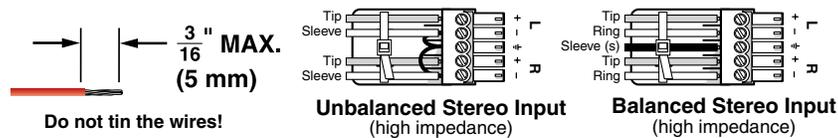
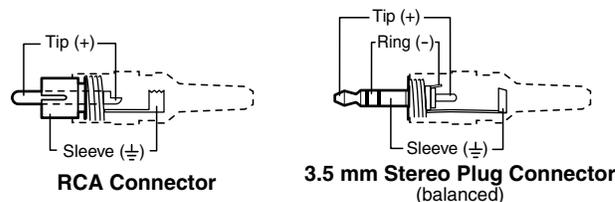
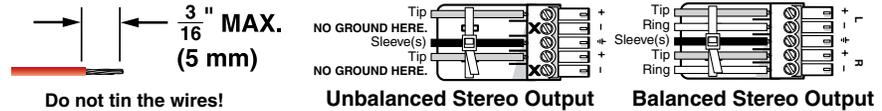

Figure 2-17 — Captive screw connector wiring for audio inputs
Figure 2-18 — Typical audio connectors
Figure 2-19 — Captive screw connector wiring for audio output
- ④ Connections for balanced and unbalanced audio inputs — Each input has a 3.5 mm, 5-pole captive screw connector for balanced or unbalanced stereo audio input. Connectors are included with each switcher, but you must supply the audio cable. See figure 2-17 to wire a connector for the appropriate input type. Use the supplied tie-wrap to strap the audio cable to the extended tail of the connector. High impedance is generally over 800 ohms.
NOTE See figure 2-18 to identify the tip, ring, and sleeve when you are making connections for the switcher from existing audio cables. A mono audio connector consists of the tip and sleeve. A stereo audio connector consists of the tip, ring and sleeve. The ring, tip, and sleeve wires are also shown on the captive screw audio connector diagrams, figure 2-17 and figure 2-19.
- ⑤ **Connections for balanced and unbalanced audio outputs** — These 3.5 mm, 5-pole captive screw connectors output the selected unamplified, line level audio. Connect audio devices, such as an audio amplifier or powered speakers. See figure 2-19 to properly wire an output connector. Use the supplied tie-wrap to strap the audio cable to the extended tail of the connector.